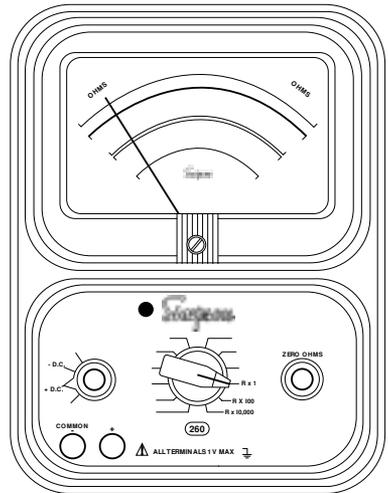

Figure 4-14. Jacks and Switch Positions for Continuity Tests
- Set the FUNCTION switch to the “ Ω ”. Insert the black test lead into the COMMON (-) and the red test lead into the (+) jacks, (Figure 4-14).